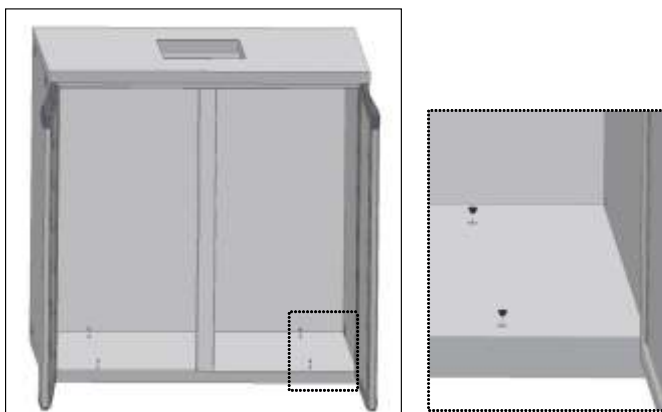

Fig. 12
- Colocar tacos no fundo (Fig. 12);